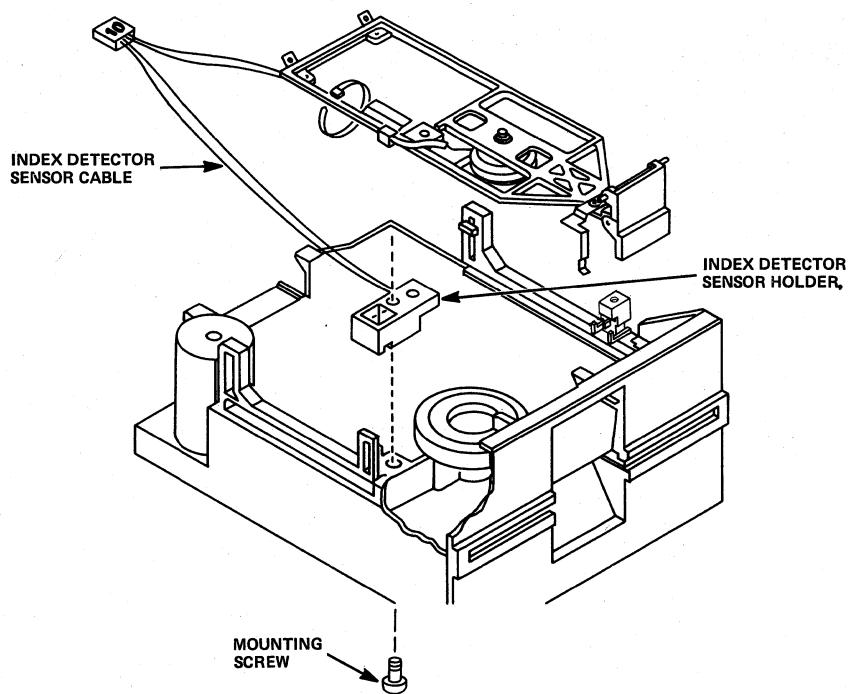

Figure 5-16
- 5.9.6 With a Phillips screwdriver, remove the mounting screw from the bottom of the disk drive that attaches the index detector sensor holder to the chassis (see Figure 5-16).